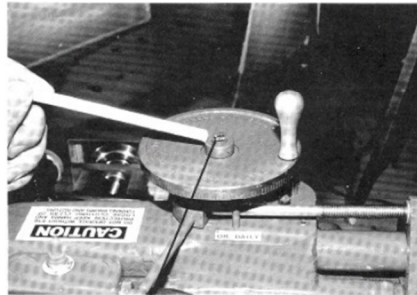

FIGURE 3
- Add 3-5 drops of oil to the Vertical Shaft Assembly at “E” and “F” in figure 3 below.